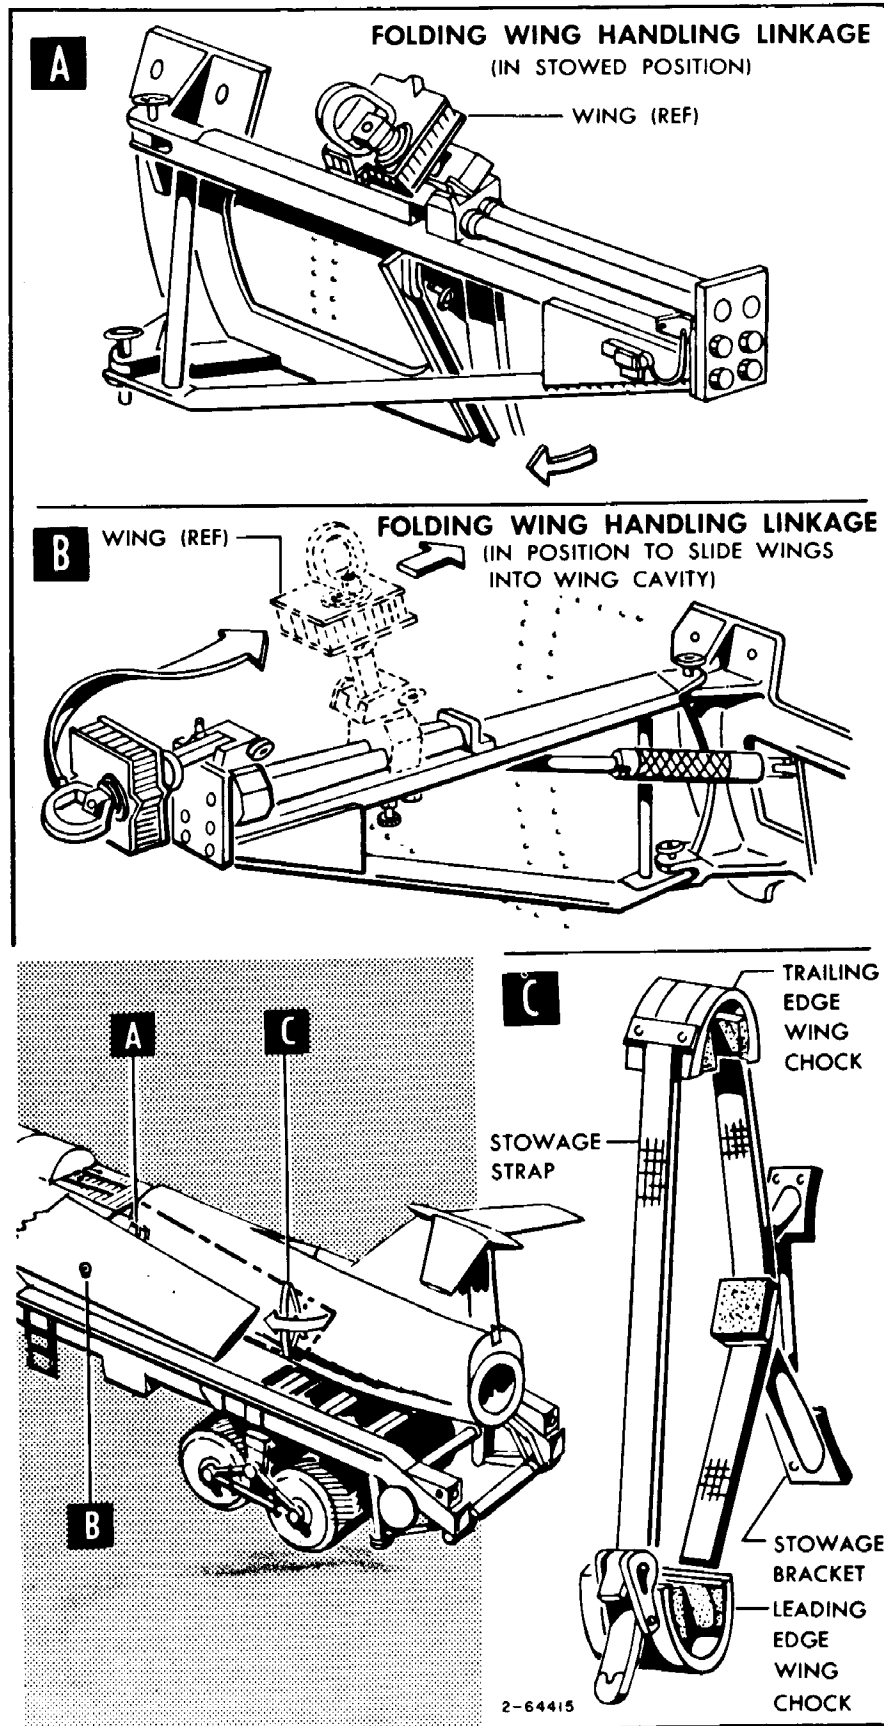

Figure 3-27. Installing Folding Wing
- a. Release wing stowage bracket straps (figure 3-27) which secure left wing.
a. Release wing stowage bracket straps (figure 3-27) which secure right wing.